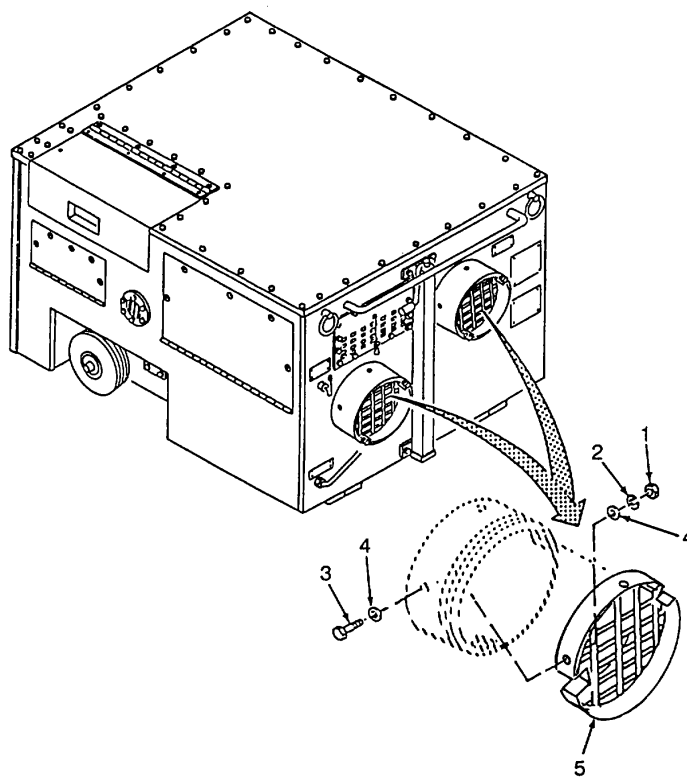

Figure 4-25. Return/Supply Screen
- a.            Removal (Refer to Figure 4-25)
- (1)    Remove four nuts (1), four lockwashers (2), four screws (3), and eight flat washers (4).
- (2)    Remove supply screen (5).
- (3)    Repeat step (1) and (2) to remove second screen (5).
- (1)    Inspect screens for dirt, grease, and soot. Clean with rags (Item 2, App E).
- (2)    Inspect screens for broken wire mesh and/or cracked welds.
- c.            Installation (Refer to Figure 4-25)
- (1)    Install screen (5).
- (2)    Install eight flat washers (4), four screws (3), four lockwashers (2) and four nuts (1).
- (3)    Repeat steps (1) and (2) to install second screen (5).